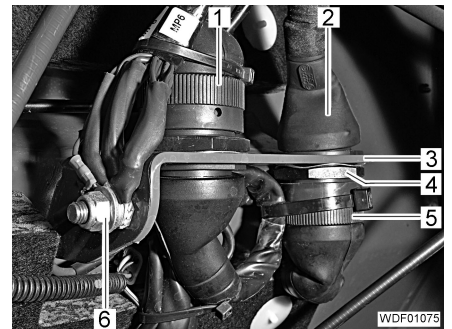

Fig. 401 Electrical plugs
- Insert the plug (Fig. 401,2) into the holder (Fig. 401,3).
- Screw the nut (Fig. 401,4) with the washer onto the connector and tighten.
- Attach the 2 plugs (Fig. 401,1 and 5).
- Screw the nut (Fig. 401,6) with washer onto the thread of the grounding point and tighten.